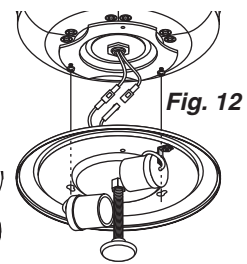

Fig. 12
- C. While nesting the wires into the recess, lift the light fixture to the motor, aligning the two screws to engage the large end of the two key holes in the light fixture. Fig 12